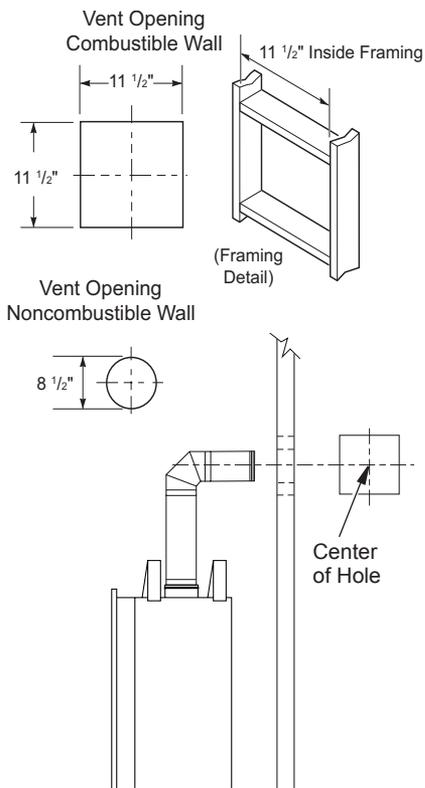

Figure 9 - Vent Opening Requirements
etrated is constructed of noncombustible material, such as masonry block or concrete, a 8 1/2" hole with zero clearance is acceptable (see Figure 9).
3. Cut a hole in the roof using locating hole as a center point. (Cover any exposed open vent pipes before cutting hole in roof.) The 11 1/2" x 11 1/2" hole must be measured on the horizontal; actual length may be larger depending on pitch of roof. There must be a 1" clearance from vent pipe to combustible materials. Frame opening as shown in Figure 9, page 11.